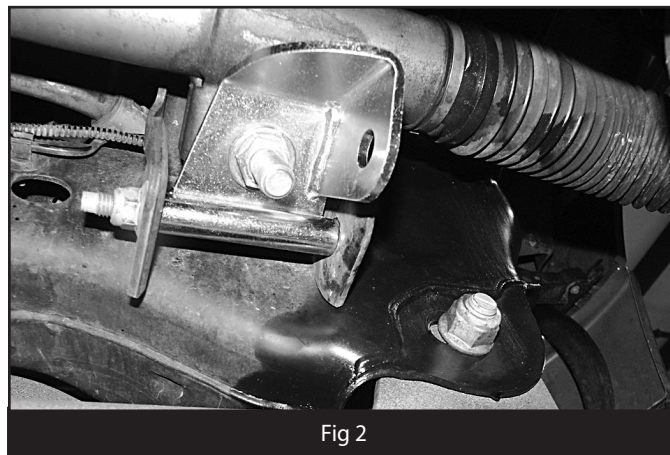

Fig 2
3. Install bushings and cup washers on end of stabilizer. Attach stabilizer to passenger's side rack and pinion mount (01537), included with suspension lift kit and tie rod mount. (Figure 2)